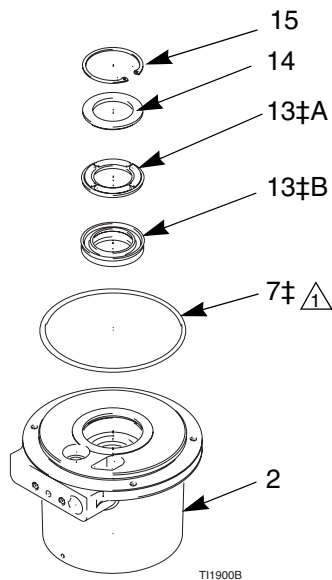

FIG. 11. Air Motor Base
7. Remove the o-ring (7) from the air motor base. Use a clip removal tool to take out the c-clip (15), then remove the washer (14), ring (13‡ A), and seal (13‡ B). Note the orientation of these parts. See FIG. 11.
1. Place the o-ring (7‡) on the air motor base (2). Lubricate the o-ring and the center bore in the base. Install the seal (13‡ B) with the groove facing up. Install the ring (13‡ A) in groove with notches facing up. Install the washer (14) with the flat side facing up, then the c-clip (15). See FIG. 11.